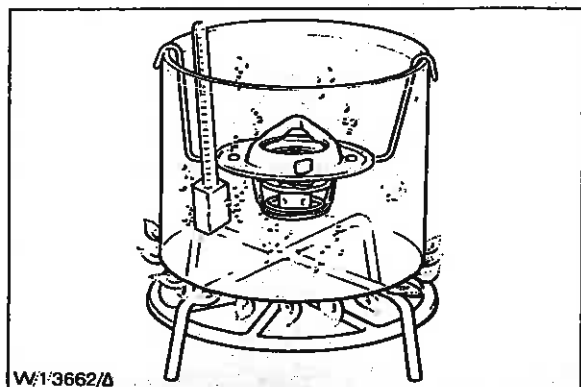

Fig. 9 - Testing the Thermostat
7. Suspend the thermostat to be tested in a water filled metal container so that it is submerged but not touching the container - see Fig. 9.